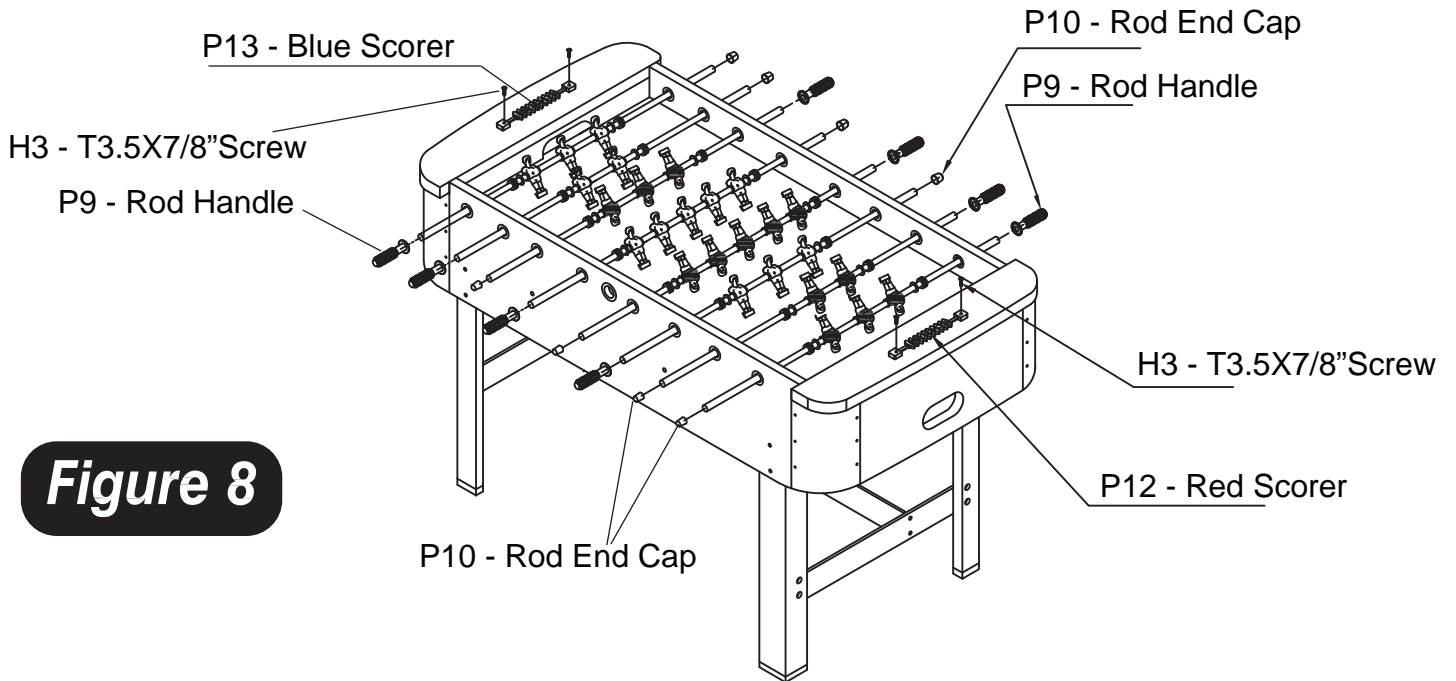

Figure 8
14. Screw scorers P12 and P13 to the center of the end apron P2 top rail using screw H3 as shown in FIGURE 8.